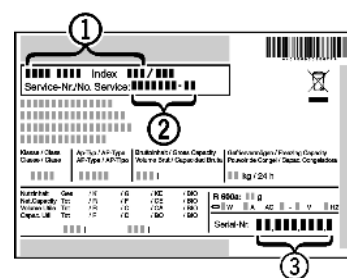

Fig. 33
- ▶ Read off the appliance name *Fig. 33 (1)*, service no. *Fig. 33 (2)* and serial no. *Fig. 33 (3)* from the model plate. The model plate can be found on the inside of the appliance on the left.